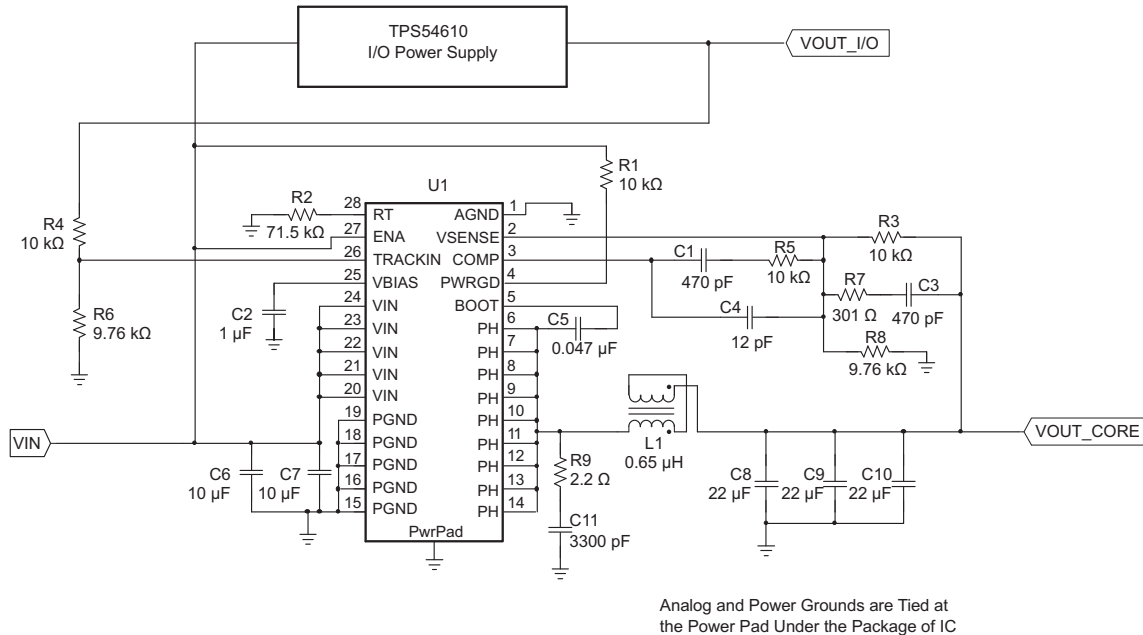

Figure 10. Application Circuit
- (1) Specified by design from  $-40^\circ$ C to  $85^\circ$ C.
- (2) Static resistive loads only
- (3) Specified by the circuit used in Figure 10
Figure 10 shows the schematic diagram for a typical TPS54680 application. The TPS54680 (U1) can provide greater than 6 A of output current at a nominal output voltage of 1.8 V. For proper thermal performance, the exposed thermal PowerPAD underneath the integrated circuit package must be soldered to the printed-circuit board. To provide power up tracking, the enable of the I/O supply should be used. If the I/O enable is not used to power up, then devices with similar undervoltage lockout thresholds need to be implemented to ensure power up tracking. To ensure power down tracking, the enable pin should be used.